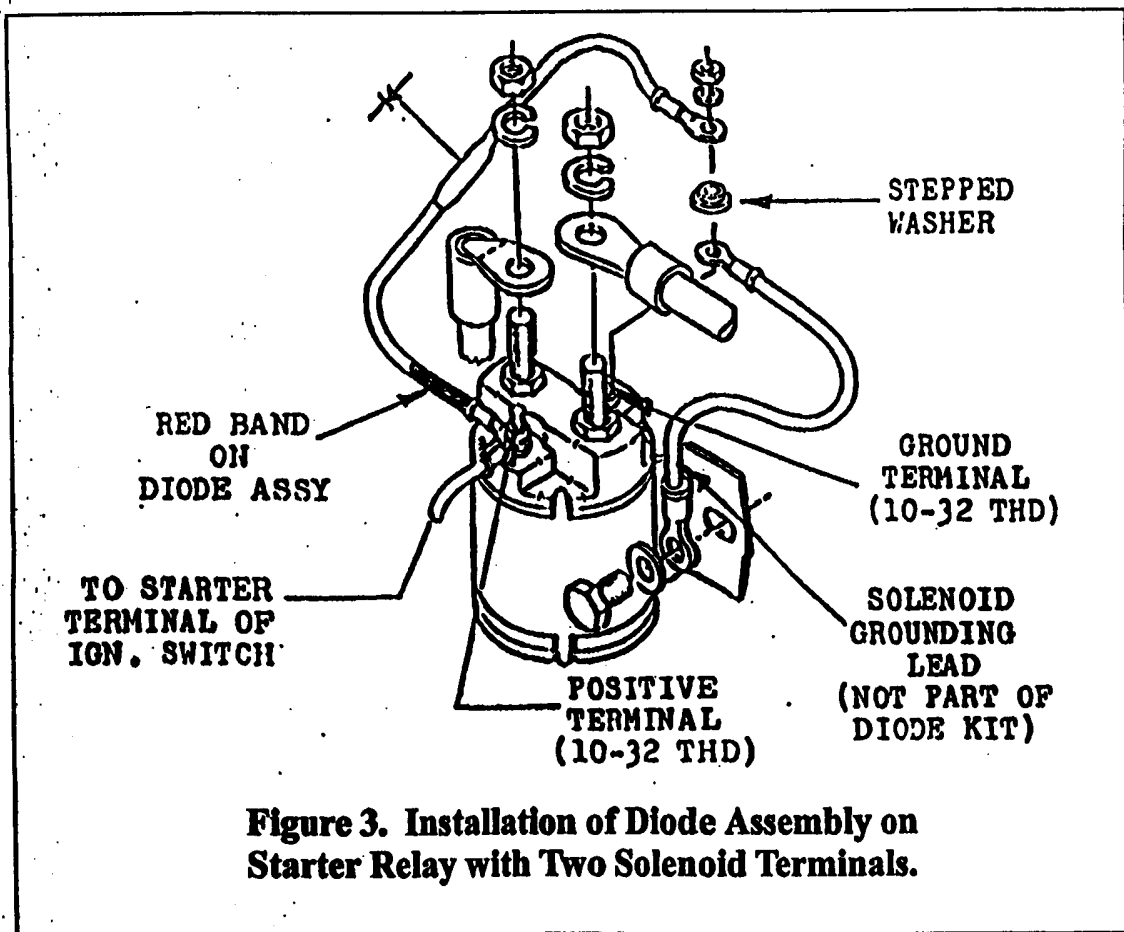

Figure 3. Installation of Diode Assembly on Starter Relay with Two Solenoid Terminals.
- a. Refer to Figure 3. Remove the nut and washer from the positive (starter switch) terminal on the starter relay solenoid coil.